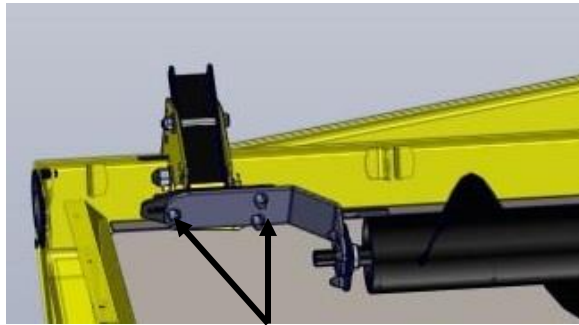

Figure 218
8. The right-hand auger can be removed by removing the 3 bolts holding the bearing mount to the retaining tab. Figure 218